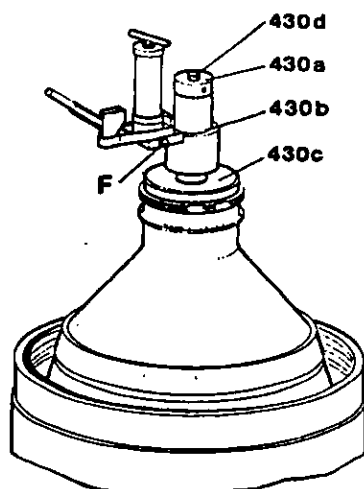

Fig. 4/3b
- 14) Before screwing in the bowl lock ring, compress the disc stack by means of compressing device 430 (fig. 4/3b) in the following manner (see also sect. 4.6):
- b) Screw bolt 430d down into the distributor until there is a clearance of 32 - 35 mm between end thread of bolt and upper edge of pump tube (see fig. 4/10).